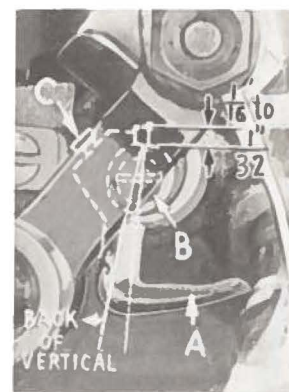

Fig. 7
Insert upper looper (A, Fig. 7) in its holder. Screw (B) holds looper in its holder, and permits it to be pushed in or out or turned around its shank. Insert looper holder into looper shaft, if it is not already in place. Screw (C) on clamp collar holds looper holder in the shaft, and allows holder to be rotated or adjusted laterally.
Preliminary Setting: When looper is at the right end of its stroke, looper holder should be set to position upper looper shank slightly back of vertical (Fig. 7). Top end of looper shank should extend $\frac{1}{32}$ to $\frac{1}{16}$ inch above the looper holder (Fig. 7).